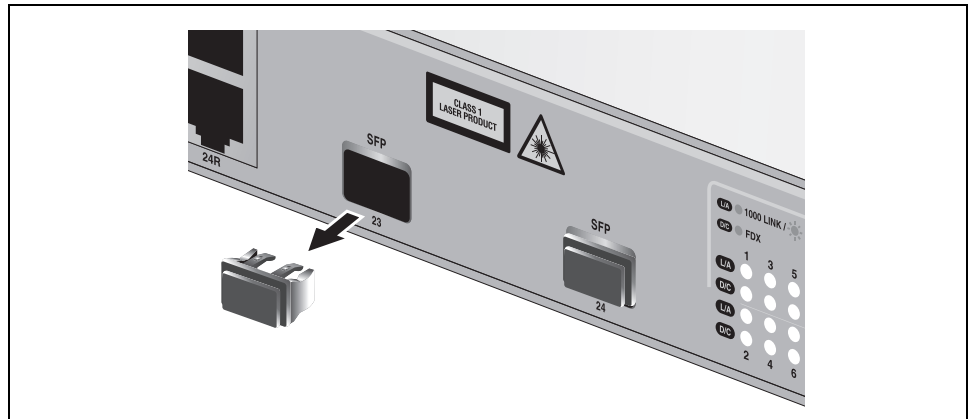

Figure 32. Removing a Dust Plug for an SFP Slot
1. Remove the dust plug from a transceiver slot on the switch, as shown in Figure 32.